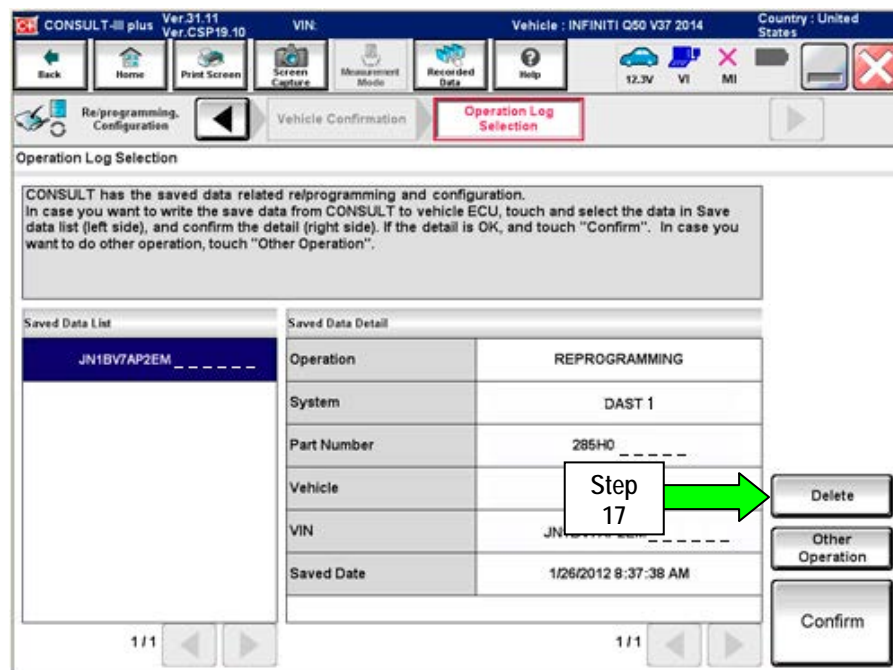

Figure 12
17. If the screen in Figure 12 appears, first select **Delete** then **Confirm**, and then **Other Operation**.